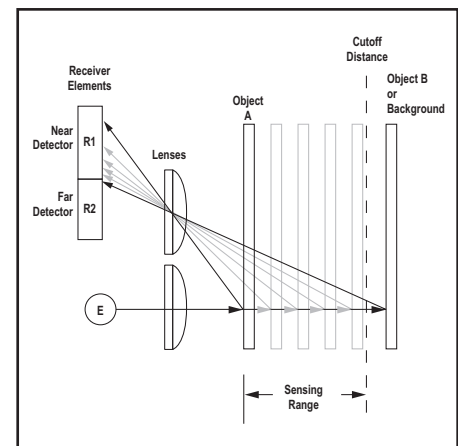

Figure 2. Adjustable field sensing concept
The sensor compares the reflections of its emitted light beam (E) from an object back to the sensor's two differently-aimed detectors R1 and R2 (see Figure 2). If the near detector (R1) light signal is stronger than the far detector (R2) light signal (see object A, closer than the cutoff distance), the sensor responds to the object. If the far detector (R2) light signal is stronger than the near detector (R1) light signal (see object B, object beyond the cutoff distance), the sensor ignores the object.